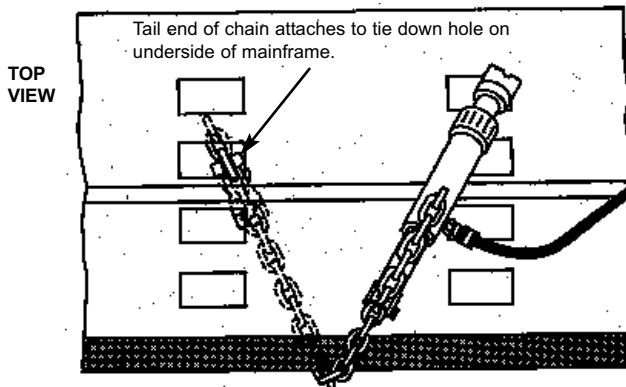

Figure 11
1. Position auxiliary ram assembly at desired angle securing v-base attachment in corner of tie down hole. (See Figure 11.)
IMPORTANT: Tail end of chain must be secured at opposite angle to auxiliary ram. (See also Figure 11.)